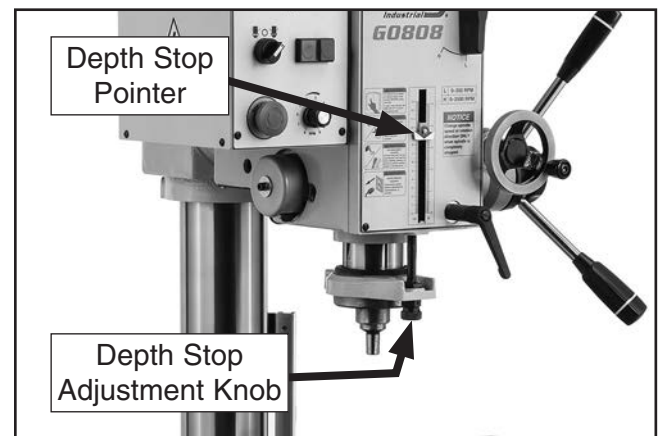

Figure 47. Location of depth stop controls.
4. Rotate depth stop adjustment knob until top of depth stop pointer is level with desired depth as listed on scale (see **Figure 47**).